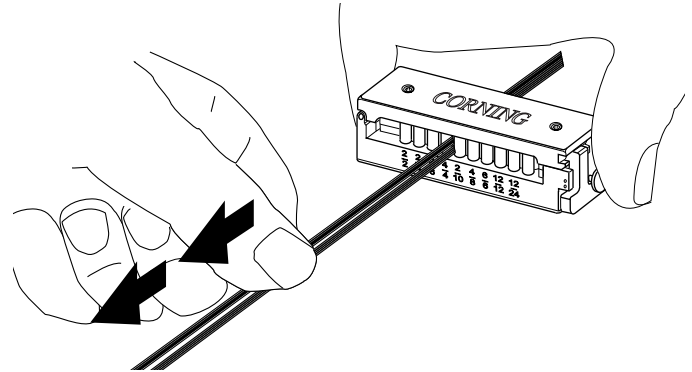

Figure 16
5.6 If appropriate for your installation, divide the ribbon(s) using the RST-000 tool as described in SRP-004-098 (Figure 16).